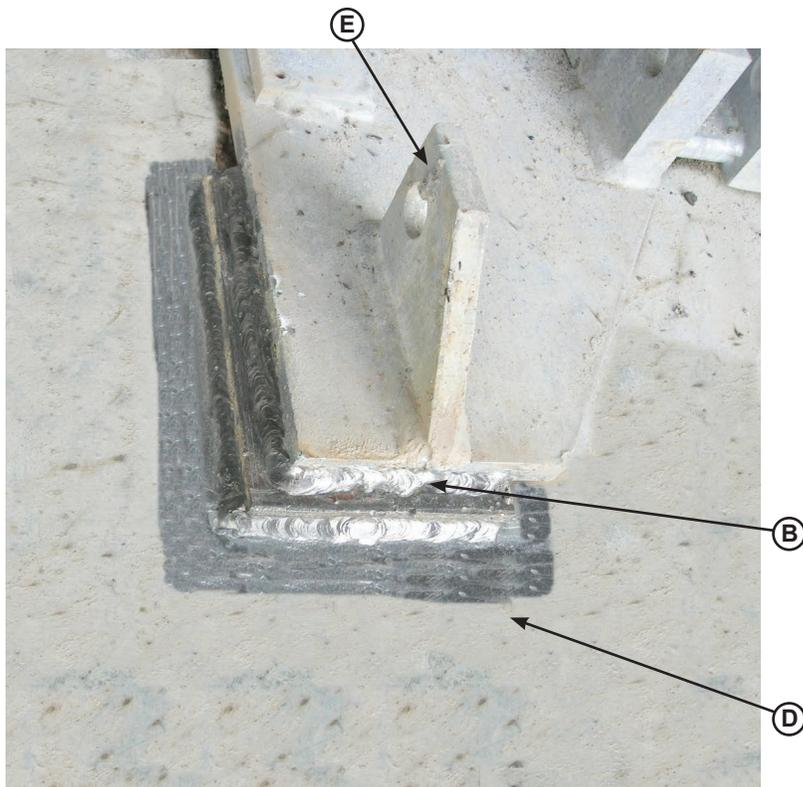

Figure 9
**10" pit models only:** Before installing the leveler, the storage prop trunnion (**K**) in the rear embed channel (**E**) must be shimmed (**B**) and welded to the embed on the pit floor (**D**). See Figures 9, 10 and 11.